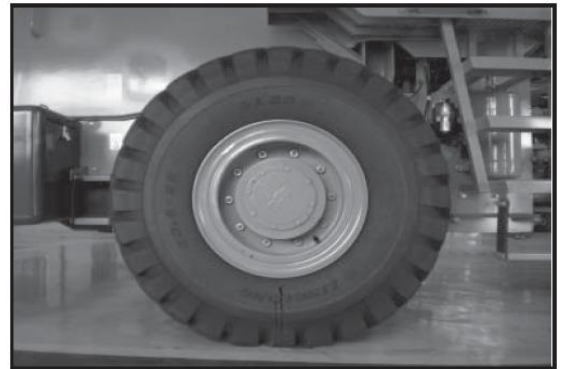

Fig.17
4. Remove the wheel nuts and tire assy from the hub (refer to Fig 17). Check the weariness of nut and replace the nut if necessary.